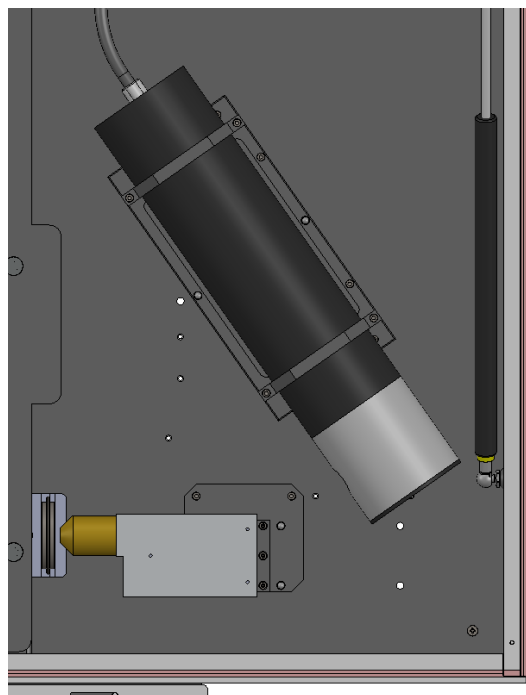

Figure 27: Sources swapped to have MagPro as excitation source.
5. Move the MagPro into the forward position, locating the dowels on the holder into their holes. Secure using 2 x M4 screws (Figure 27).